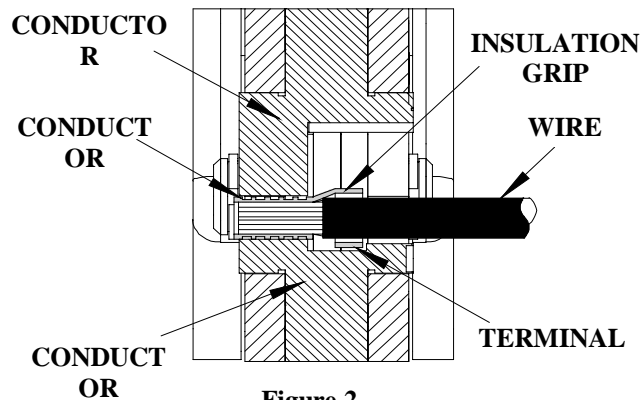

Figure 2
3. Insert the properly stripped wire into the terminal barrel. See Figure 2 and 3.